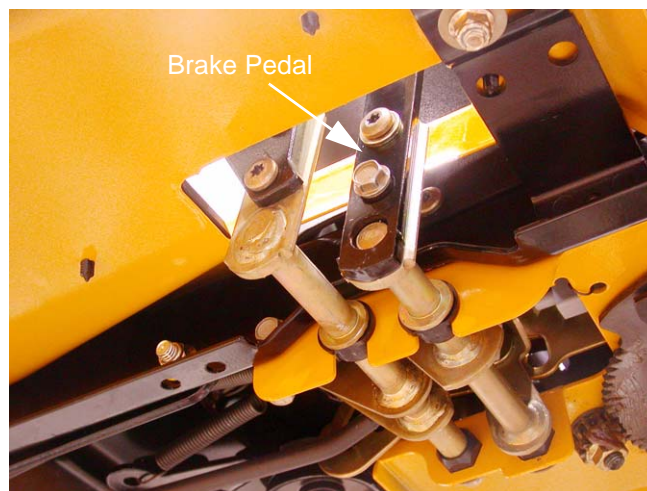

Figure 26.31
26.31. Confirm that the brake pedal is firmly attached to the pedal shaft. See Figure 26.31.